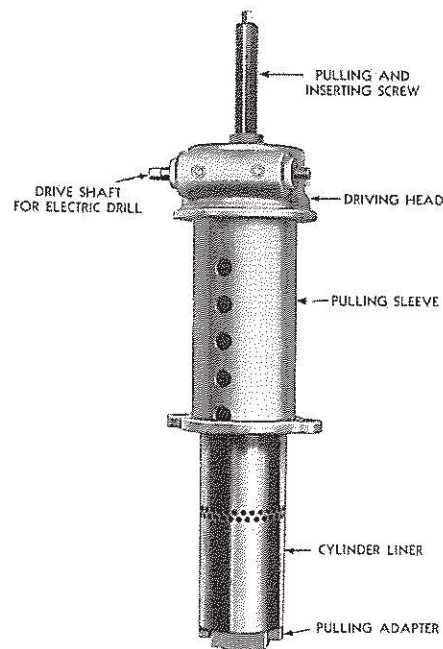
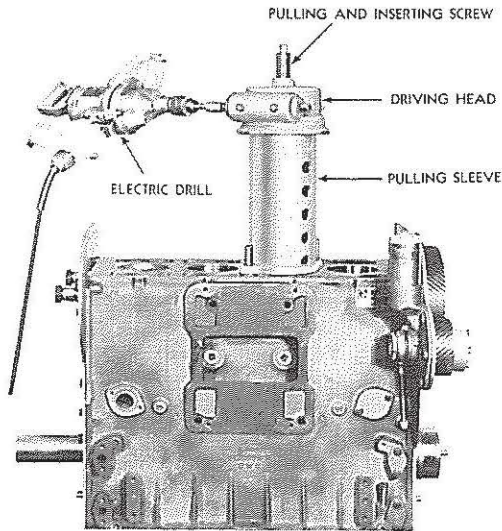

FIG. 2
FIG. 3
8. Since the cylinder liners are a loose fit they may be removed easily from the top of the cylinder block by hand after loosening with the tool shown in Fig. 3. A study of Fig. 2 will show how to set up and use the cylinder liner puller tool.
Press fit liners have to be removed all the way from the cylinder block with the set-up as in Fig. 3.